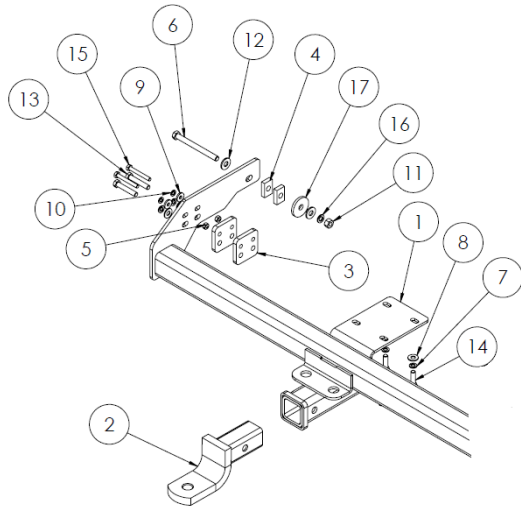

Figure 2 – Locate the towbar on the vehicle.
1. Locate the towbar on the vehicle and mount it using the relevant fasteners, shown in Figure 2.